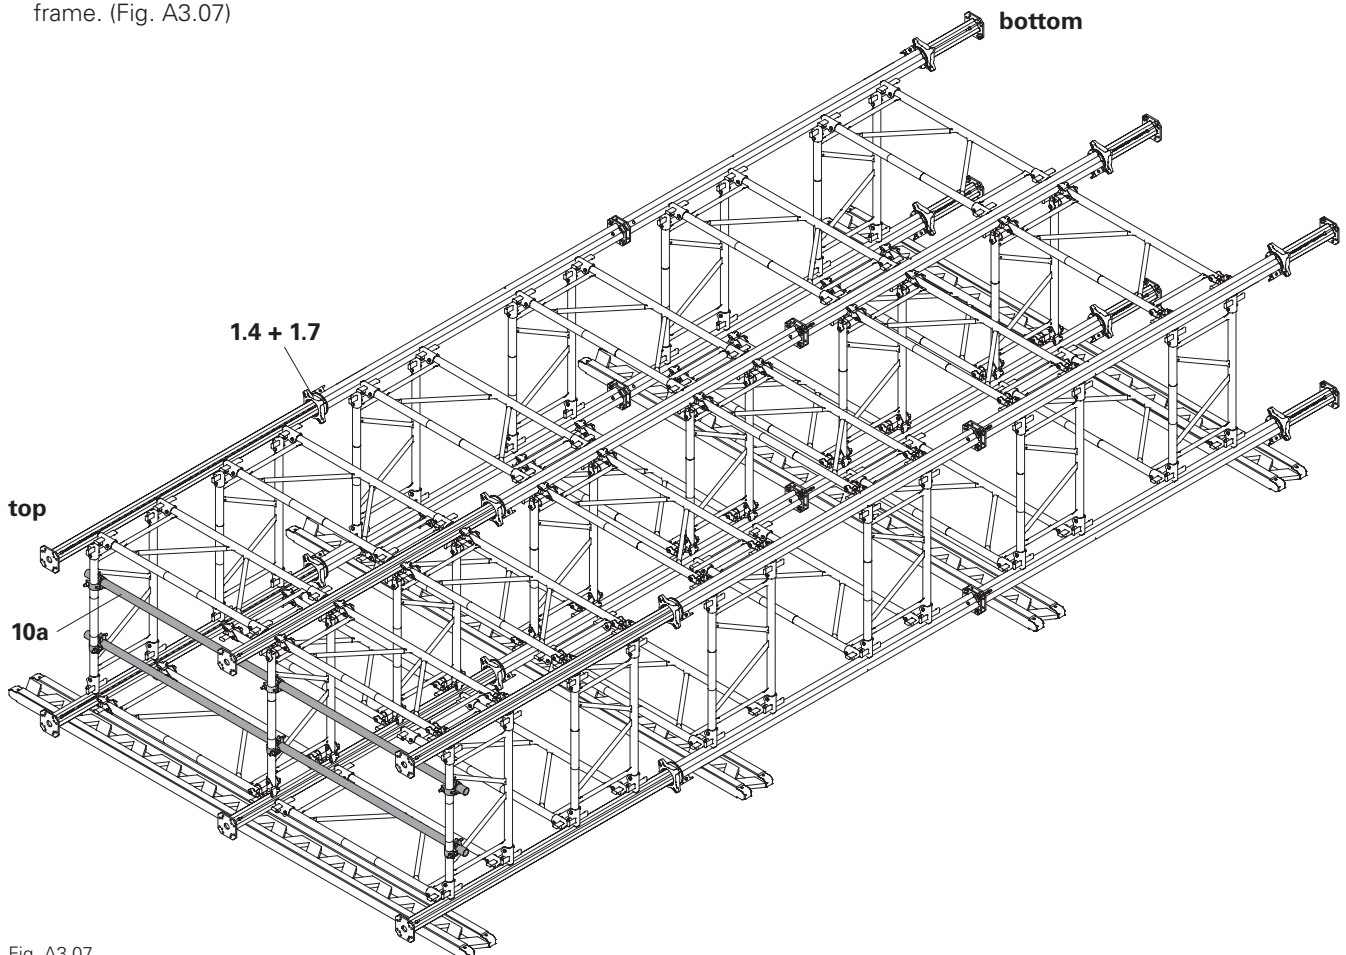

Fig. A3.07
- For the lifting unit, fit Scaff. Tubes Ø48.3x3.2 mm (10a) beneath the frame tubes of the upper frame. (Fig. A3.07)